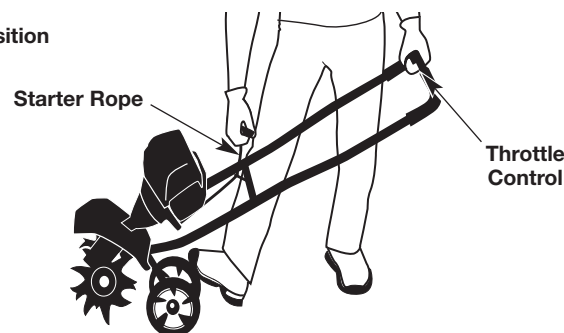

Fig. 6
**WARNING:** Avoid accidental starting. Make sure you are in the starting position when pulling the starter rope (Fig. 6). To avoid serious injury, the operator and unit must be in a stable position while starting.
5. Stand in the starting position (Fig. 6). Hold the handlebar and squeeze the throttle control with one hand. Hold the starter rope with the other hand. Use one foot to hold the wheels in place.
**NOTE:** Always tilt the unit back slightly to bring the tines off the ground when starting the unit (Fig. 6).